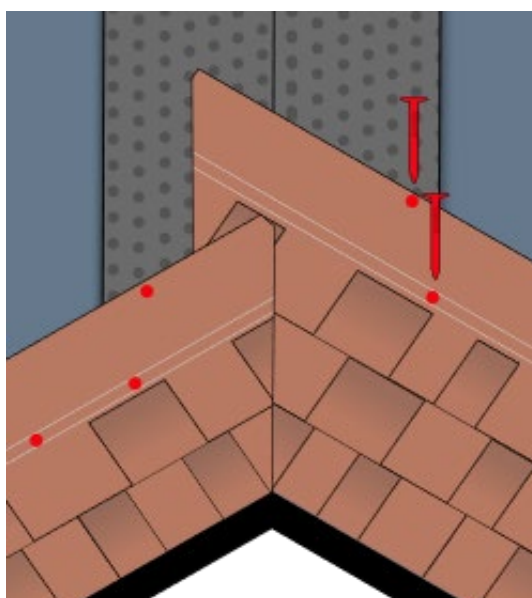

Fig. 15 - Shingles installation at valleys
- Once you have completed the first pitch for the entire length of the valley, move to the adjacent pitch. Start installing the shingles from the starting row and continue in successive rows. The last shingle in each row must reach at least the axis of the valley – Fig. 15. Nail the shingles up to 40 cm from the axis of the valley and apply them with torch in correspondence of the bituminous membrane. Once the installation of the shingles is completed even for the second pitch, trace the axis of the valley. Then cut the shingles of the second pitch following the valley line – Fig. 15.